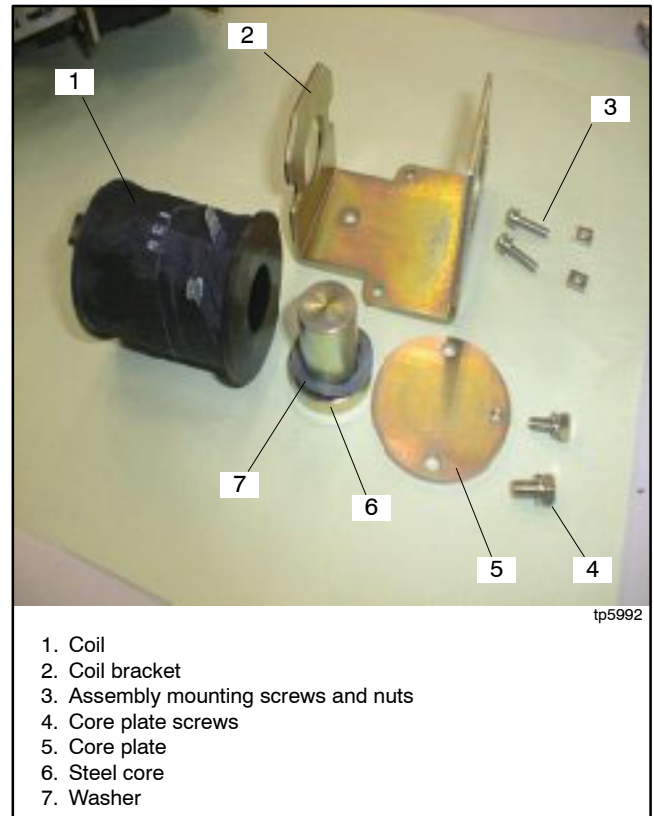

Figure 7-11 Coil Assembly Parts
2. Remove the core plate and the steel core with washer. See Figure 7-11.
3. Remove the coil from the coil bracket. See Figure 7-11.